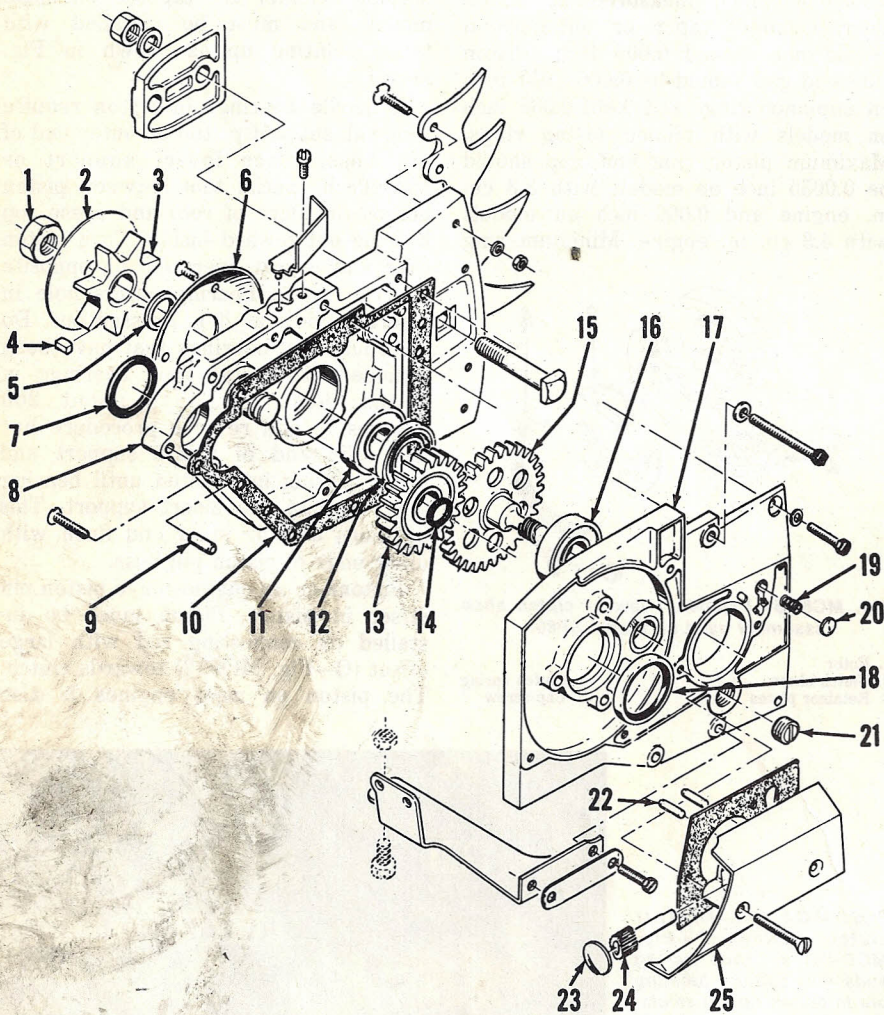

Fig. MC6-17—Exploded view of gear transmission used on Models LG-2, LG-6 and G-70.
AUTOMATIC OILER. All models except Model 10-10 have an automatic chain oiler in addition to the manual chain oiler. The oil pump on direct drive models is operated by crankcase pulsations while the oil pump on gear drive models is driven by a worm gear on gearshaft (15—Fig. MC6-17). The oil pump on gear drive models is driven by a worm gear on gearshaft (15—Fig. MC6-17). The oil pump on gear drive models operates only when the chain is driven and is non-adjustable.
TRANSMISSION. Models LG-2, LG-6 and G-70 are equipped with a gear drive transmission. Refer to Fig. MC6-17 for an exploded view of transmission. Refer to LUBRICATION for lubrication requirements. An automatic chain oil pump is used with this transmission and operates only when the chain is turning. Oiler is plunger type and non-adjustable.
should be followed. Idler gear and bearing (13—Fig. MC6-17) must be renewed as a unit assembly. Install seal (12) with lips toward gear. Seal should be greased to prevent damage until oil reaches seal. Closed side of bearing (11) should be on sprocket side of shaft. Install seal (18) with lips to inside of case and metal housing of seal flush with case. Seal should be greased. Loctite should be used on all screws.